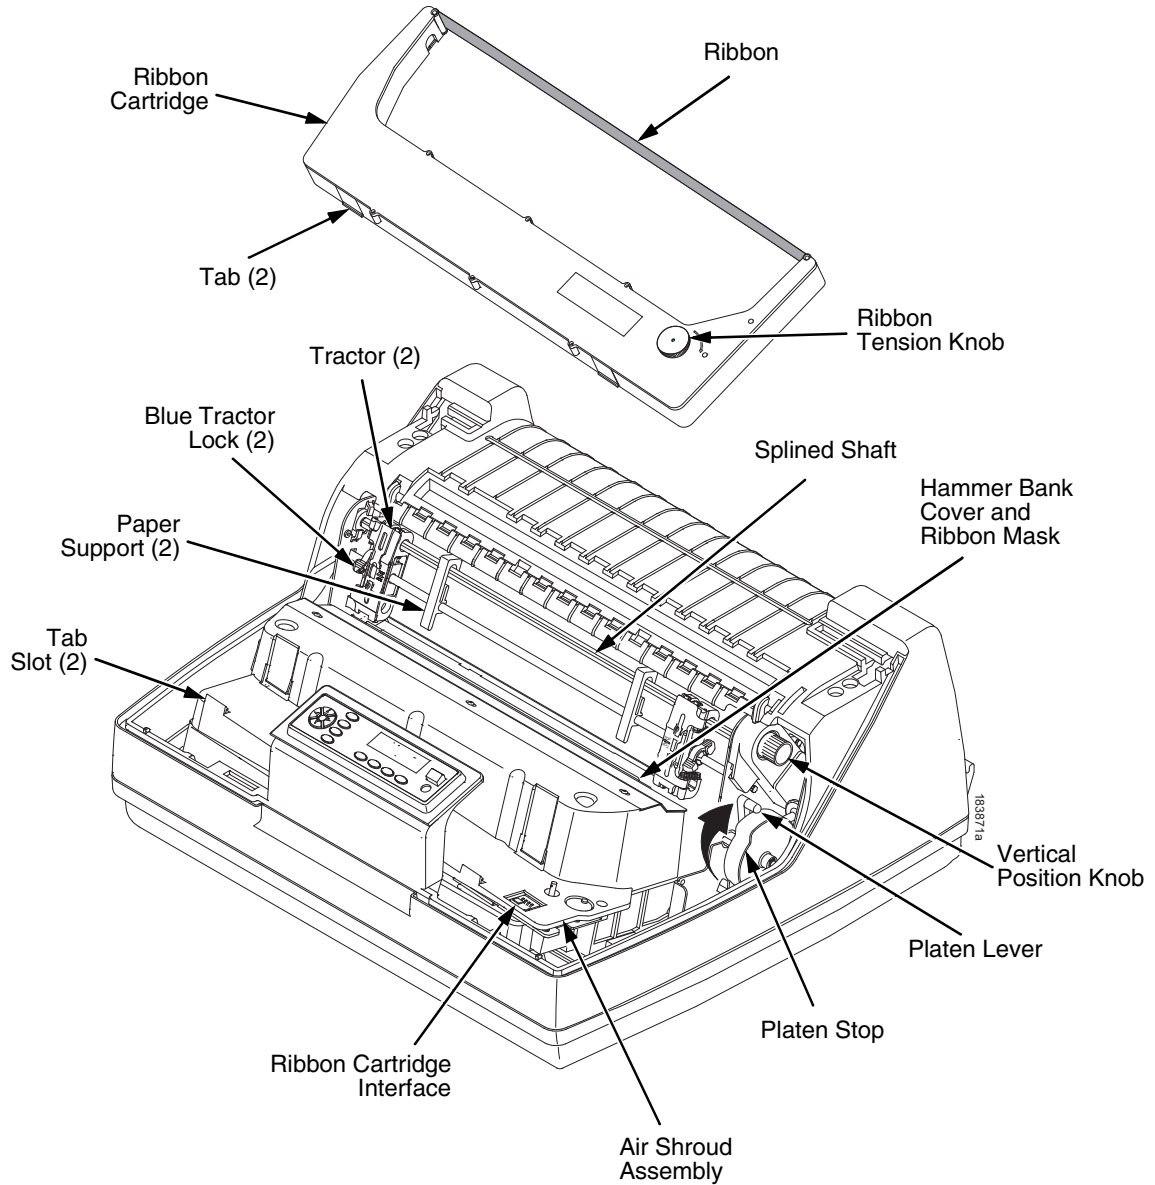

Figure 4. Printer Component Locations
1. Raise the printer cover. Raise the platen lever as far as it will go. (See Figure 4 on page 19 for the location of the lever.)
6. Pull the new paper above and behind the ribbon mask, but in front of the existing paper. See Figure 4 on page 19 for the ribbon mask location. If necessary, gently press the existing paper back.